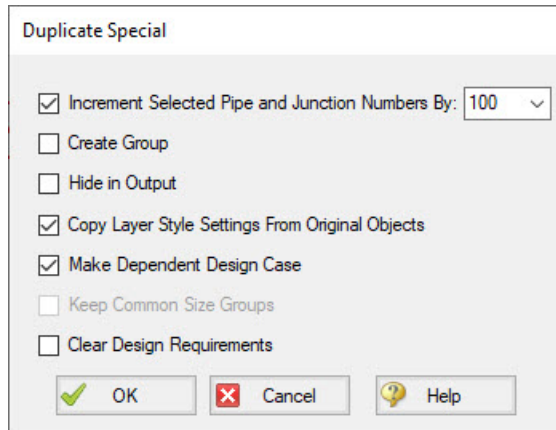

Figure 3: Duplicate Special simplifies creation of dependent design cases
4. Choose Duplicate Special from the Edit menu (see Figure 3).